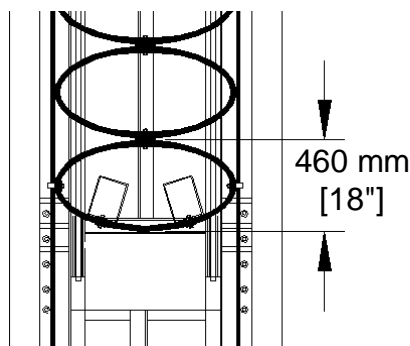

Figure 30
The REACT 350[®] II System must be inspected after each impact. Depending on the impact, components may get damaged and need replacement. A cylinder requires replacement when the minor axis of the cylinder stays permanently at 460 mm [18"] or less, (See Figure 30) or the system does not reach 90% of the original length.
- 5) Verify that all Cylinders are in good condition and properly positioned on the Base Track. Any Cylinder that is cracked or otherwise damaged should be replaced. Measure the minor axis of the Cylinders. Cylinders require replacement when the minor axis of the cylinders measures 460 mm [18”] or less (see Figure 30).
- 4) Check the condition of the **Cylinders**. Any Cylinder that is cracked or otherwise damaged should be replaced. Measure the minor axis of the Cylinders. Cylinders require replacement when the minor axis of the Cylinders measures 460 mm [18”] or less (see Figure 30).